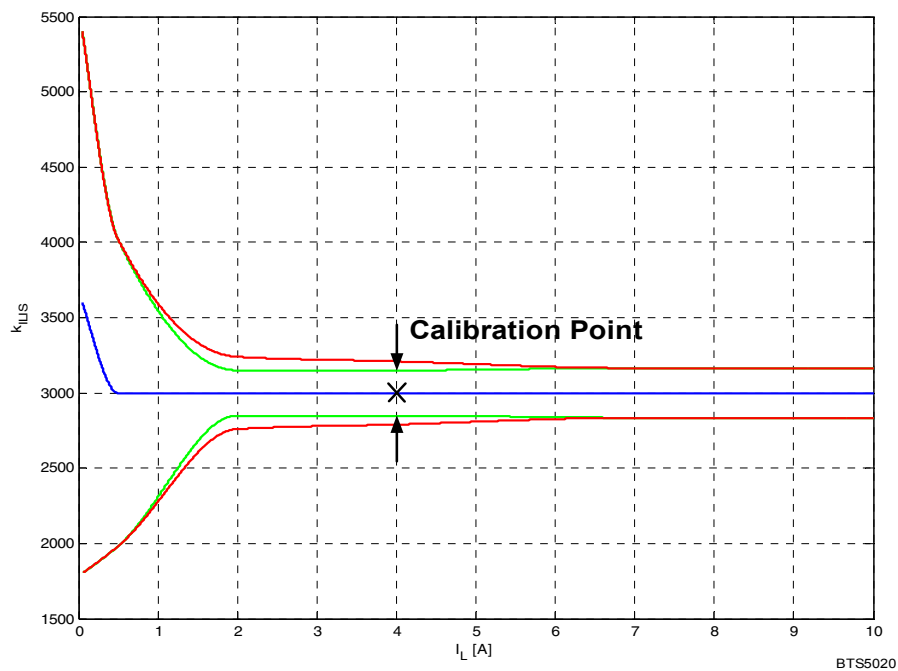

Figure 22 Improved SENSE Accuracy with One Calibration Point
**Figure 21** and **Figure 22** show the current sense as a function of the load current in the power DMOS. Usually, a pull-down resistor  $R_{IS}$  is connected to the IS pin. This resistor has to be higher than  $560\ \Omega$  to limit the power losses in the sense circuitry. A typical value is  $1.2\ \text{k}\Omega$ . The blue curve represents the ideal SENSE, assuming an ideal  $k_{ILIS}$  factor value. The red curves show the accuracy the device provides across full temperature range, at a defined current.
In some applications a better accuracy is required around half the nominal current  $I_{L(NOM)}$ . To achieve this accuracy requirement, a calibration on the application is possible. To avoid multiple calibration points at different load and temperature conditions, the BTS5020-2EKA allows limited derating of the  $k_{ILIS}$  value, at nominal load current ( $I_{L3}$ ;  $T_J = +25\ ^\circ\text{C}$ ). This derating is described by the parameter  $\Delta k_{ILIS}$ . **Figure 22** shows the behavior of the SENSE current, assuming one calibration point at nominal load current and  $+25\ ^\circ\text{C}$ .